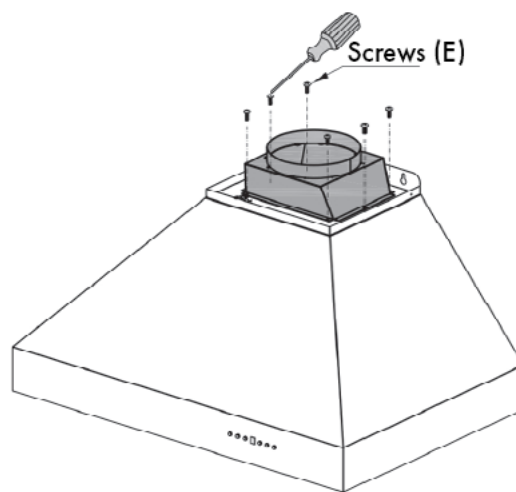

Figure 4
5. Install the transition piece on top of the range hood by securing it with screws (E) provided. Some hoods require 4 screws, others require 6. **NOTE:** In some models, the transition piece will already be installed. *Figure 4*